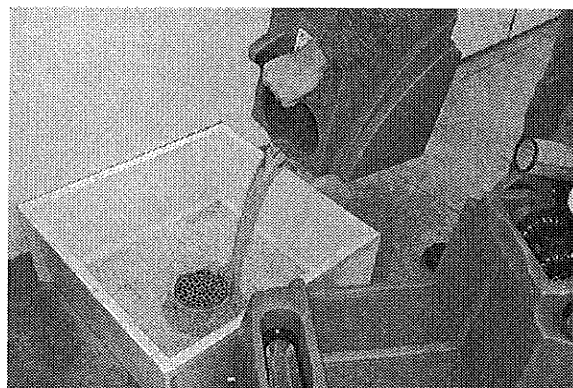

FIG. 11
2. Hinge open cover, lift recovery tank out and empty (Figure 11).